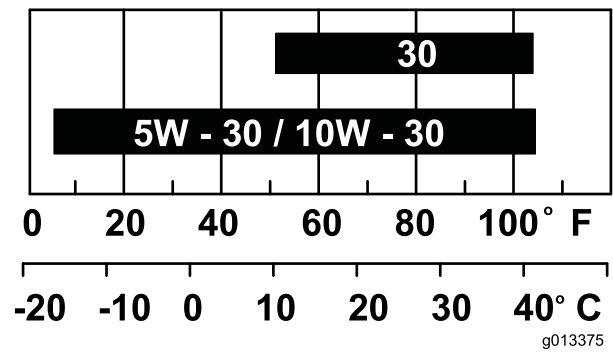

Figure 45
**Note:** Use SAE 10W-30 for general use. You can use the other viscosities shown in the chart when the average temperature in your area is within the indicated range (Figure 45).